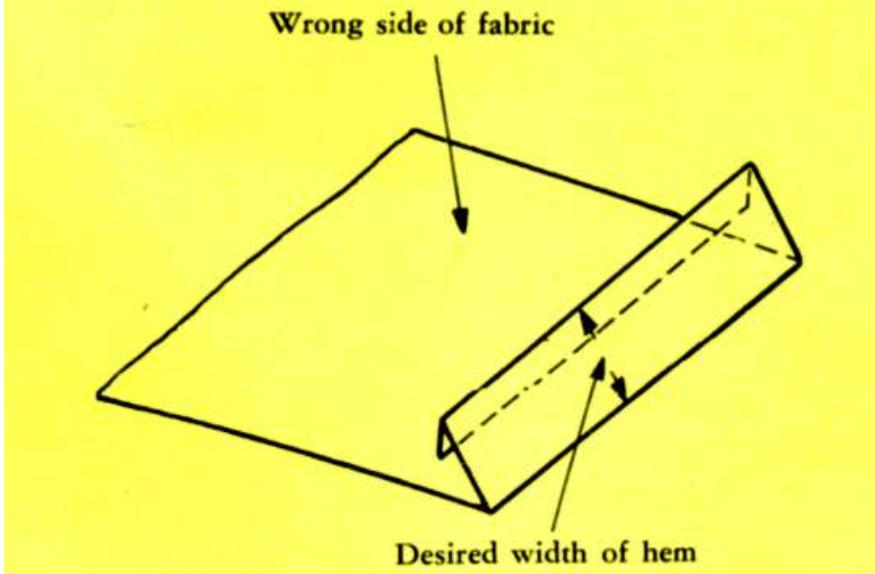

Fig. 28
- 2) Fold desired width of hem toward wrong side of fabric, as shown in Fig. 28. Follow this step for all types of fabric.